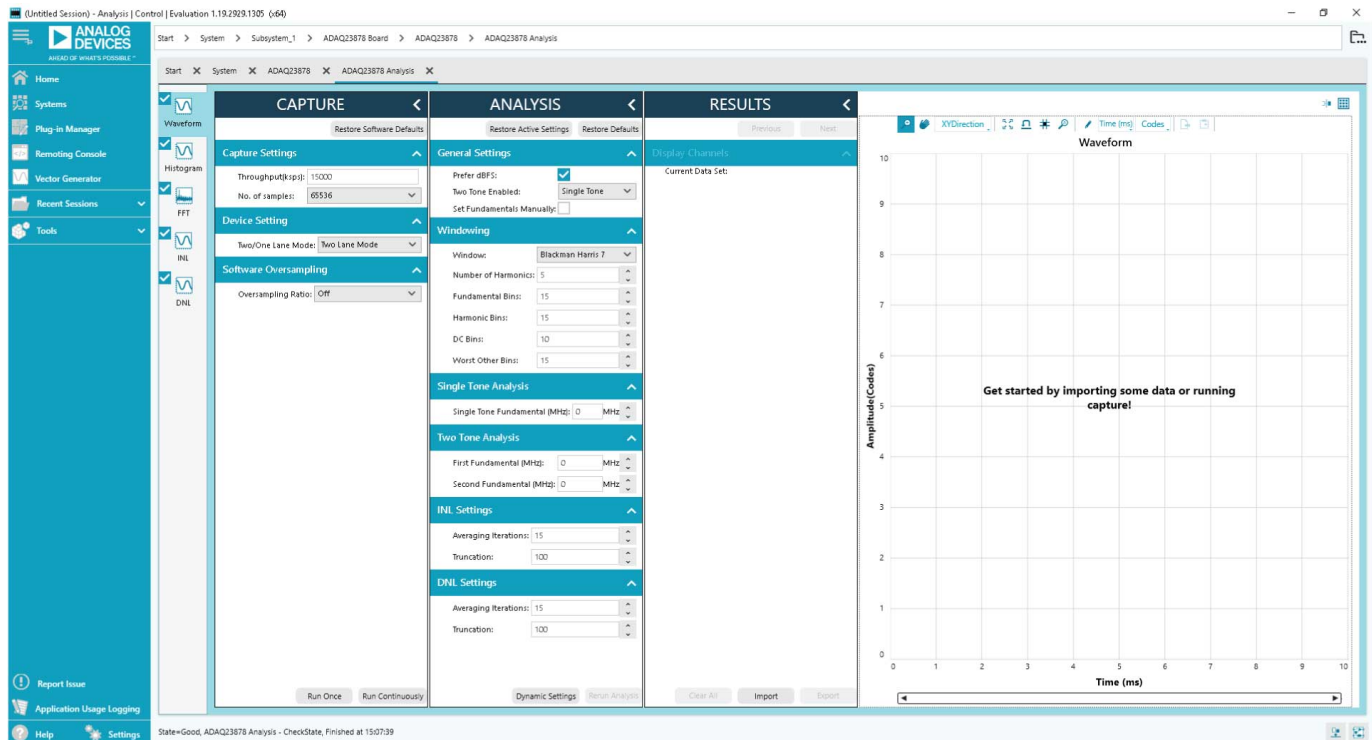

Figure 17. Analysis View
6. Click **Proceed to Analysis** in the chip view window to open the analysis view window shown in Figure 17.
Click **Proceed to Analysis** in the chip view window to open the analysis view window shown in Figure 17. The analysis view window contains the **Waveform** tab, **Histogram** tab, **FFT** tab, **INL** tab, and **DNL** tab.